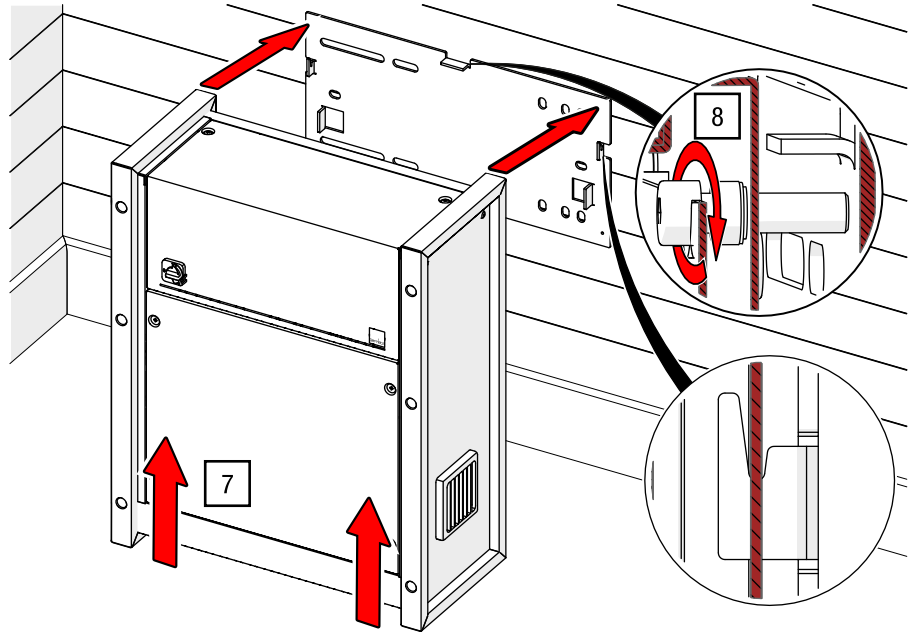

Fig. 19: Fixing the control unit to the wall mounting plate (control unit model may vary)
7. Set up the control unit and hang it in the two hooks of the wall mounting plate already pre-mounted on the wall using the slots provided on the back (see Fig. 19).
8. Lift off the control panel and secure the control unit to the wall mounting plate using the enclosed M8 × 30 hexagon socket screw (see Fig. 19).